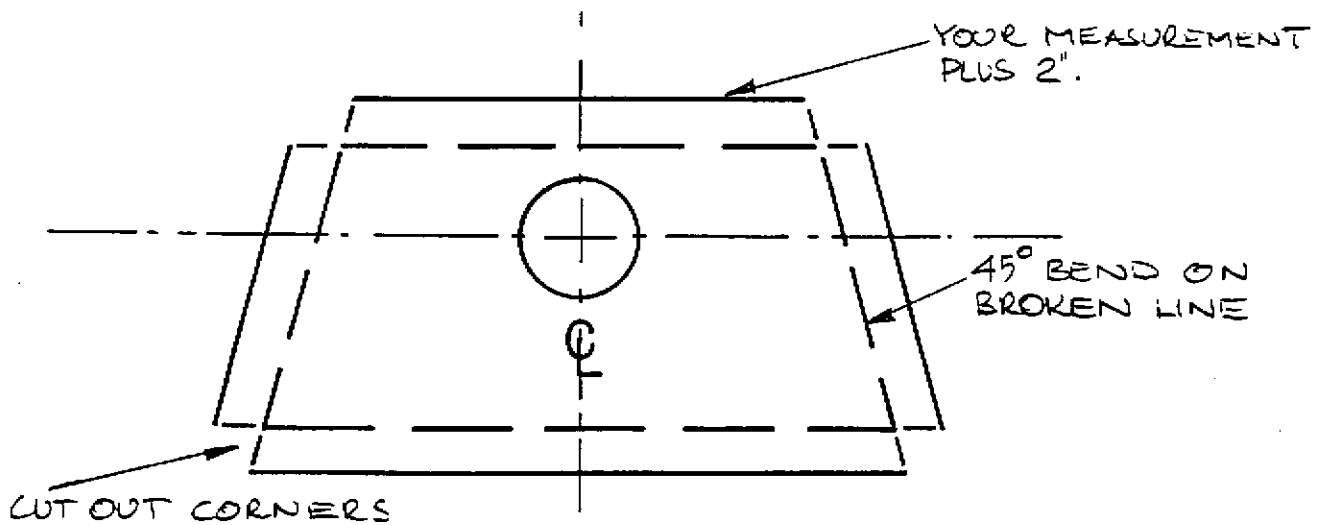
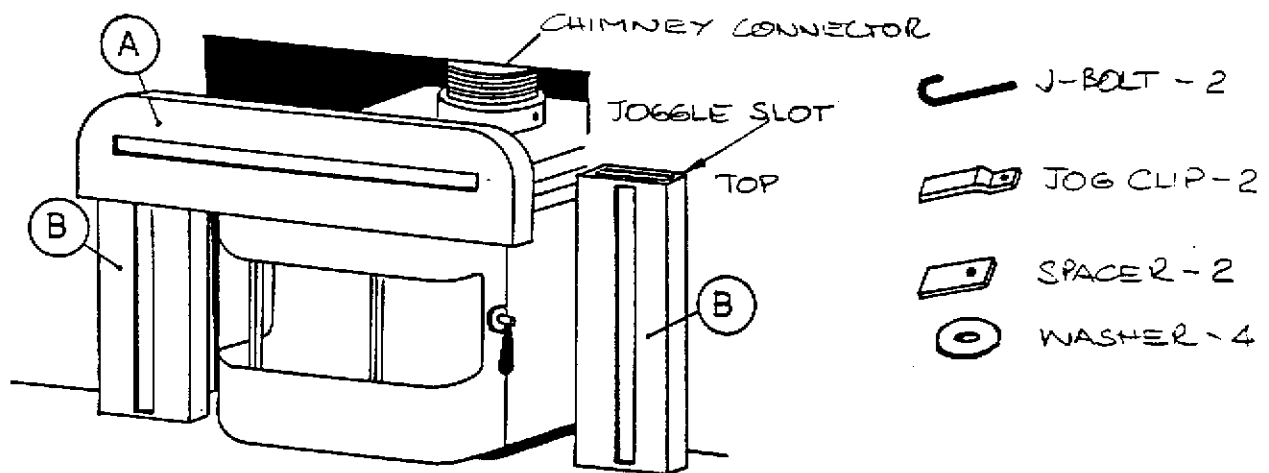

FIGURE 12.
FIGURE 13.
3. Measure the area of the firebox below the damper opening and above the lintel, see figure 12. Transfer these measurements to a piece of galvanized sheet metal (minimum of 24 gauge) and add 2" to each side. Cut the corners out as shown. Mark the position of several holes on each side (to suit your installation) and drill 1/4" diameter holes. The result should look similar to figure 13. Bend the 2" extended sides to 45 degrees. The 2" lip with the 1/4" diameter holes will allow you to screw this plate to the firebox walls.
4. A hole must be cut in the plate to allow the 6" diameter chimney connector to pass through from the appliance into the chimney. Mark the hole position on the plate (figure 13) so that the center line of the hole is in line with the center line of the appliance flue and the firebox damper opening. A flexible stainless steel connector is most suitable if an offset is required.
2. Remove from the box marked Panels, Elan-96, one top panel (A), two identical side panels (B), one top trim (C), two identical side trim pieces (D), and one hardware assembly package (E). (Figures 13 & 15)
3. Set the insert level in the fireplace opening, with the front edge of the insert extending out from the face of the fireplace at least 11". Take a side panel (B) and clip the side trim (D) over the edge of the panel. Hold the side panel with trim against the right side of the insert and against the fireplace face. This will be the location of the panel when installation is completed. Take the measurement from the door edge to the panel face and record it so the panels will fit in the same position in the final steps of the installation.
5. Remove from the Hardware Assembly package (E) two J-bolts with nuts and washers, two joggle clips and two spacers.